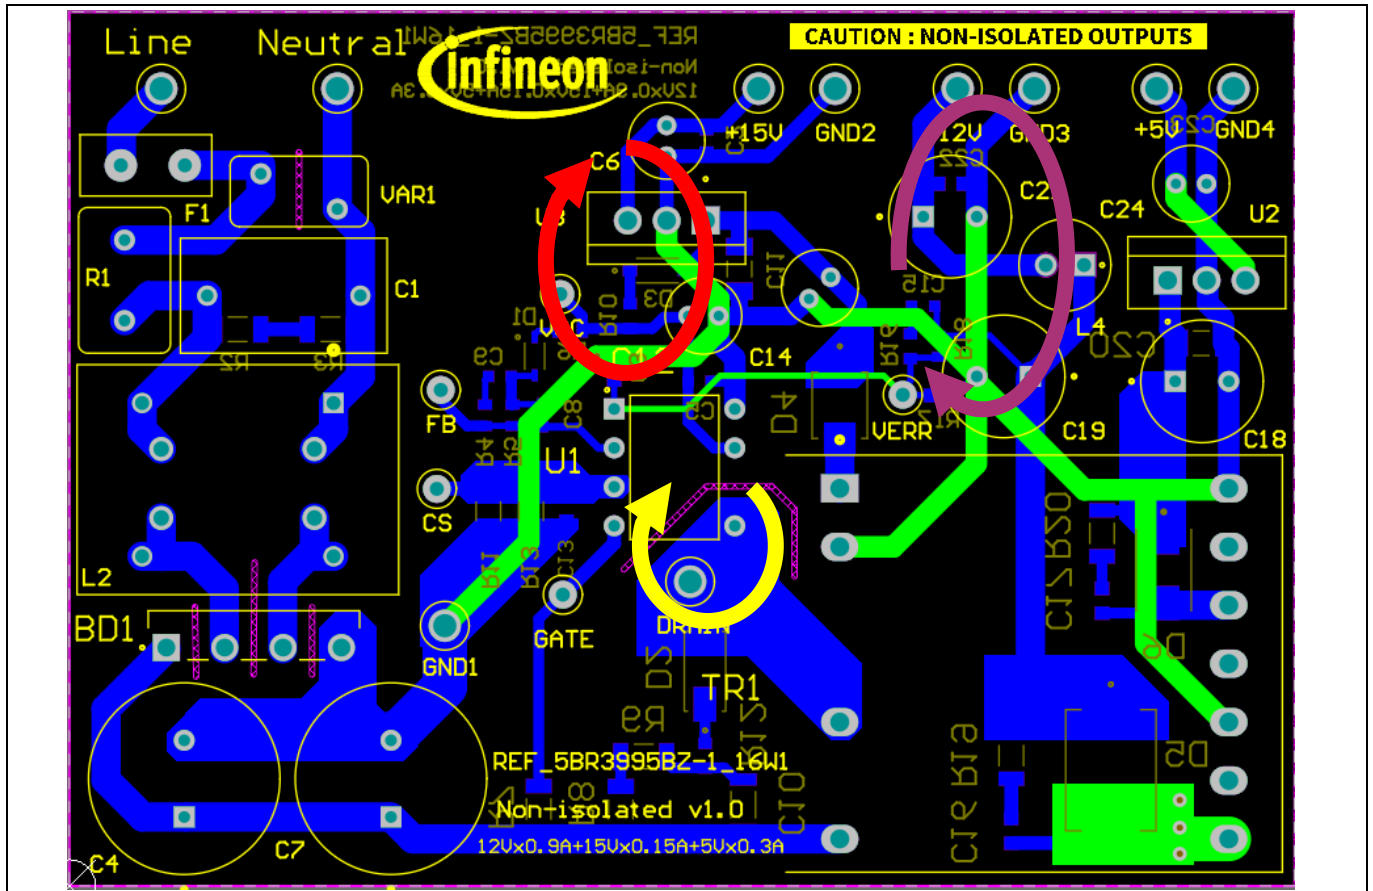

Figure 5 PCB layout tips
- The switching power loop needs to be as small as possible (see Figure 5). There are three power loops in the reference design; one on the HV side and two on the output side. The HV loop starts from the bulk capacitor (C7) positive terminal, primary transformer winding, CoolSET™ (CS) resistors and back to the (C7) negative terminal. The first output side loop (+12 V output) starts at the transformer winding (pin 8), output diode (D5), output capacitor C19 and back to pin 10 of TR1. The second output loop (+8 V output) starts at the transformer winding (pin 12 of TR1), output diode (D6), output capacitor (C18) and back to pin 14 of T1. The third output loop (18 V output) starts at the transformer winding (pin 2 of TR1), output diode (D4), output capacitor (C14) and back to pin 1 of T1.